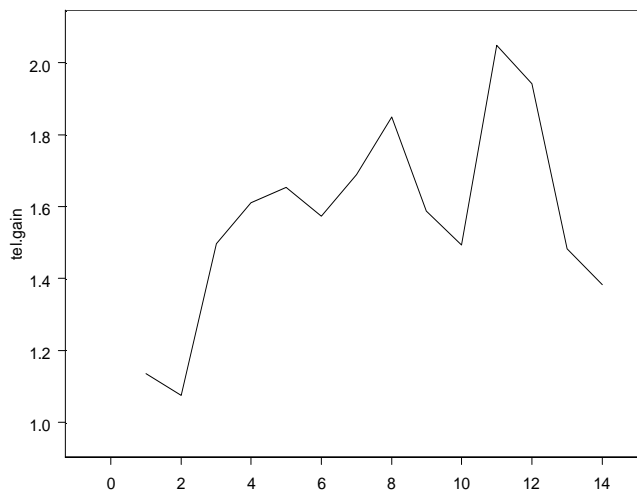

Figure 3.20: *Line plot of `tel.gain`.*
3. Click the **Line** button  on the **Plots 2D** palette. The resulting graph is shown in Figure 3.20.